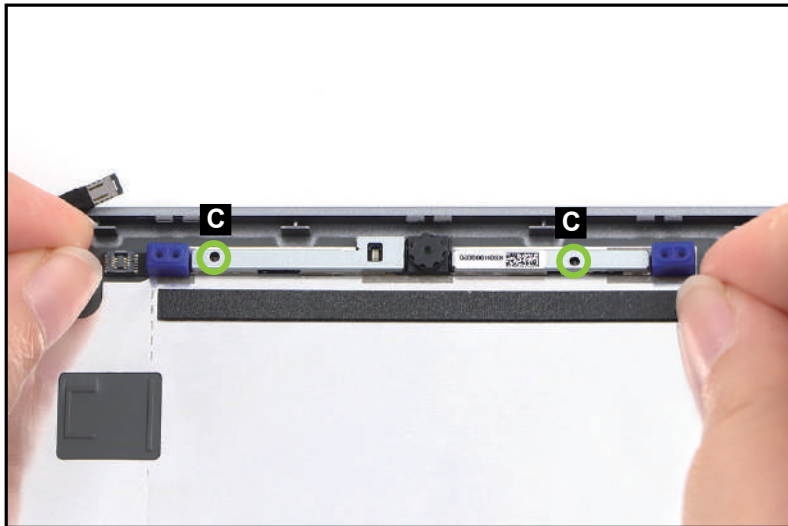

Figure 3-84. Camera Module Removal
3. Carefully lift the camera module to release it from the guide pins (C) (Figure 3-84). Then remove the camera module.